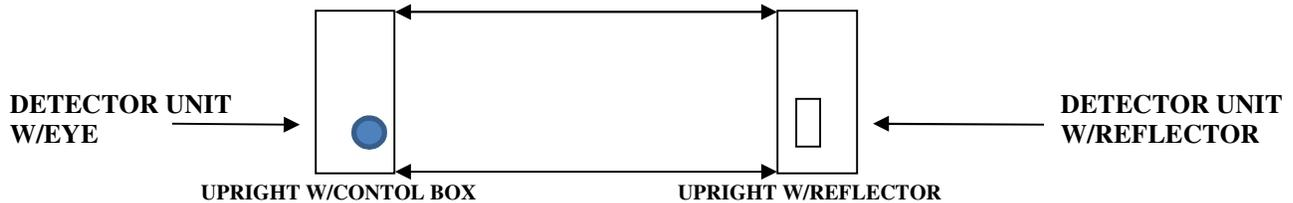

Figure 3
- F. Using a tape measure check the distance from the front corner of each detector to the front corner of the opposite detector as per Figure 3.